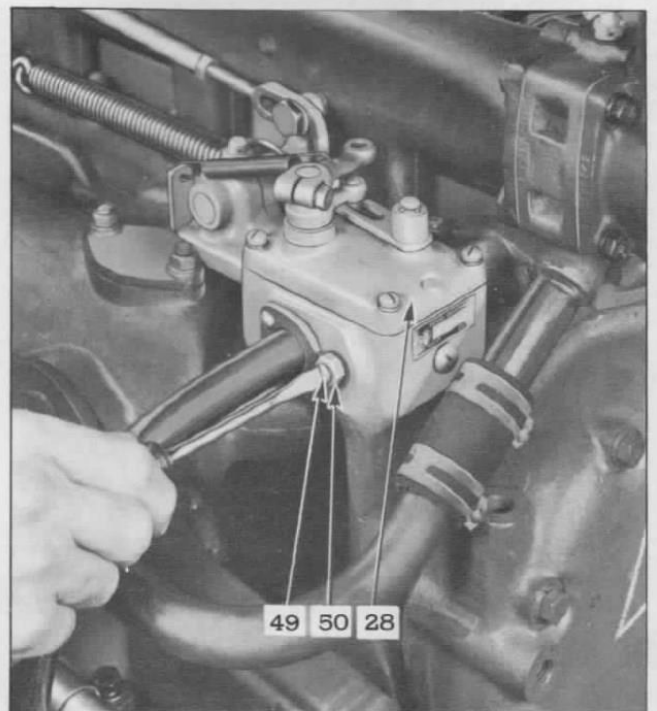

Fig. 36—Adjusting Governor Buffer Screw
1. Refer to Fig. 36 and with buffer screw (49) backed out as directed for the idle speed adjustment above, turn screw in until the spring of the buffer screw contacts the governor differential lever and the idling speed is increased slightly (not to exceed 5 RPM), tighten buffer screw lock nut (50).